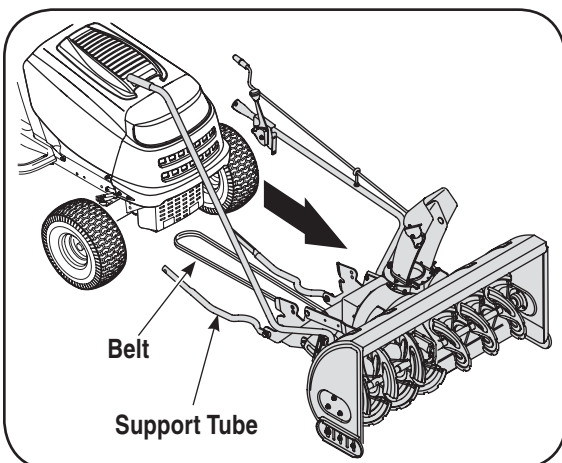

Figure 6-6
1. Position the auger housing assembly in front of the tractor as seen in Figure 6-6. Lay the belt and support tubes on the installation surface.